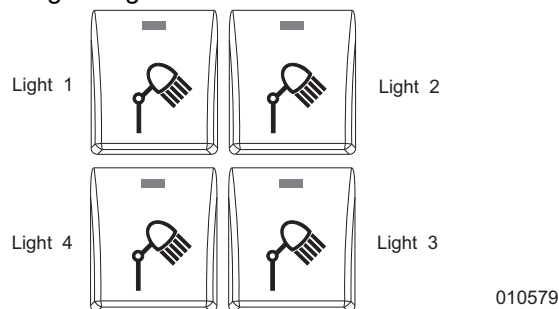

Figure 3-29. Light Fixture ON-OFF Buttons
2. See Figure 3-29. Switch lights OFF (O) by pressing the light ON-OFF buttons.